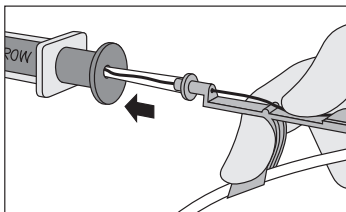

Fig. 7
- Place the tip of the Arrow Advancer™ – with “J” retracted – into the hole in the rear of the Arrow® Raulerson syringe plunger (refer to Fig. 7).